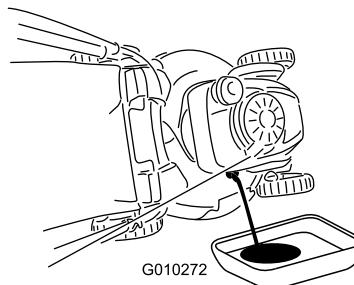

Figure 41
7. Tip the machine onto its side, with the oil-fill tube down, to drain the used oil through the oil-fill tube into the oil-drain pan (Figure 41).